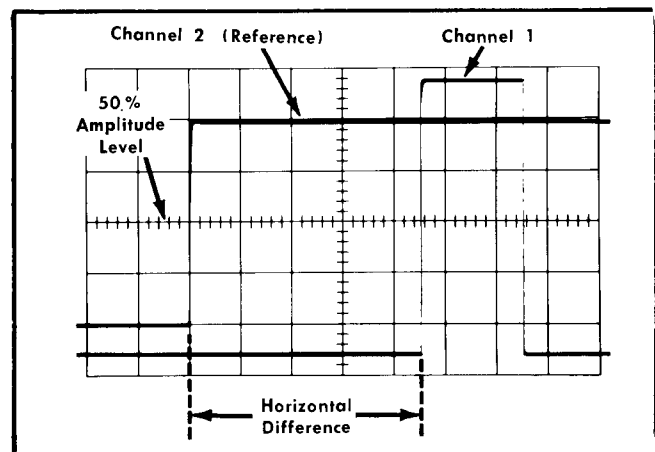

Fig. 2-13. Measuring time difference between two pulses.
11. Measure the horizontal difference between the Channel 1 waveform and the Channel 2 waveform (see Fig. 2-13).
Example. Assume that the TIME/CM switch is set to 50 μ SEC, the MAG switch to $\times 10$ and the horizontal difference between waveforms is 4.5 centimeters (see Fig. 2-13).